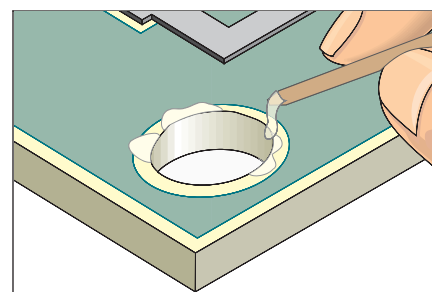

Figure 2 Apply epoxy with a small wood stick sharpened at one end.
6. Coat the area with epoxy up to and flush with the printed wiring board surface. A small wood stick may be used to apply and spread the epoxy. (See Figure 2.)